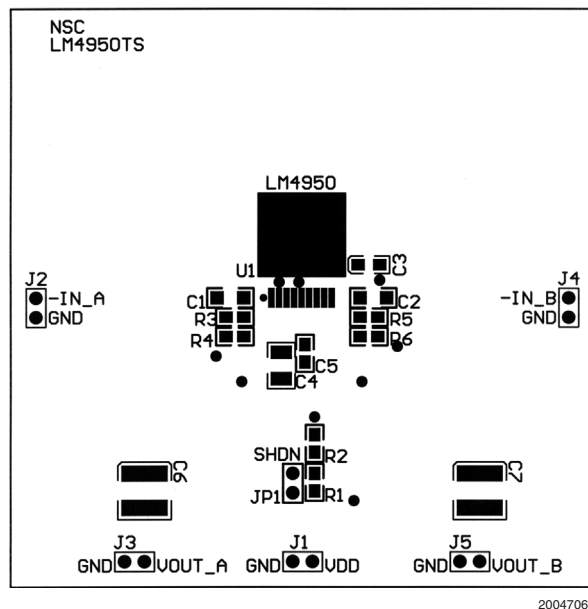

FIGURE 5. Recommended TS SE PCB Layout:
Figure 5 through Figure 7 show the recommended two-layer PC board layout that is optimized for the TO263-packaged, SE-configured LM4950 and associated external components. Figure 8 through Figure 10 show the recommended two-layer PC board layout that is optimized for the TO263-packaged, BTL-configured LM4950 and associated external components. These circuits are designed for use with an external 12V supply and 4 $\Omega$ (min)(SE) or 8 $\Omega$ (min)(BTL) speakers.